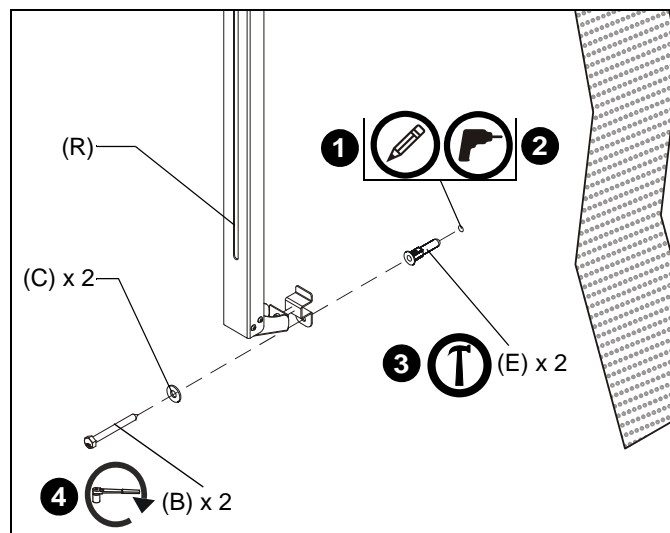

Figure 12
1. Mark the wall through the fixed wall leg (R) on each upright assembly (Q). (See Figure 12)
2. Drill one 1/4" x 2-3/4" pilot hole at each marking. (See Figure 12)
3. Install one anchor (E) into each pilot hole using a hammer. (See Figure 12)
4. Use two 1/4-20 x 2-1/2" lag bolts (B) and two 1/4" flat washers (C) to attach both fixed wall legs (R) to anchors in wall. (See Figure 12)